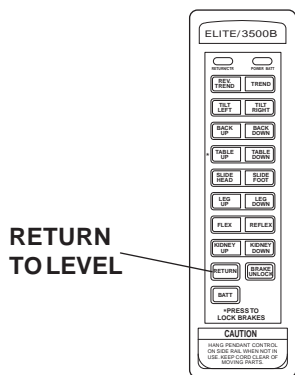

Figure 3-15.
j. **Return To Level.** To return the table top to a level position, press the RETURN button (figure 3-15).